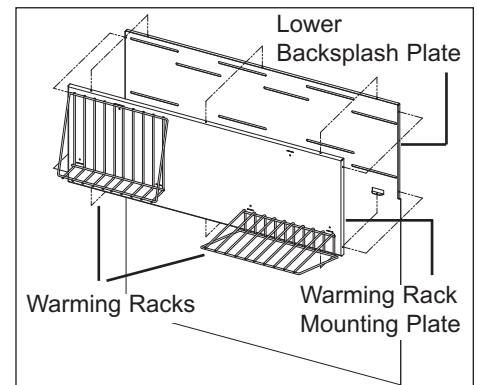

Figure 1
4. Assemble Warming Racks onto bottom two mounting clips attached to Warming Rack Mounting Plate. Note the orientation of Warming Racks in figure 1.